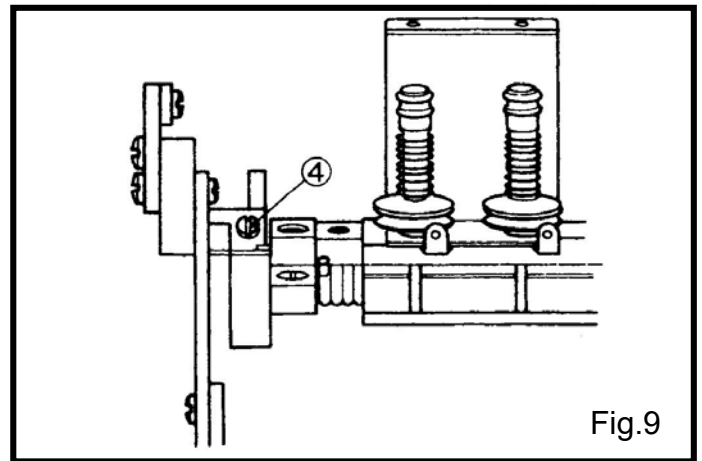

Fig.9
- (1) 放開提昇擺臂（大）的螺絲④。(Fig.9)
- (1) Loosen the screw④ of the presser bar lifter lever(large).(Fig. 9)